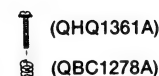

Fig. 6
- Please replace both azimuth adjustment screws (QH1361A) and springs (QBC1278A) used for to new ones simultaneously when readjusting the head azimuth. (See Fig. 6.) Even if you wish to readjust the head azimuth without replacing the screws and springs, a fine adjustment can not be done because of the screw-locking bond adhered to the azimuth screw and spring.